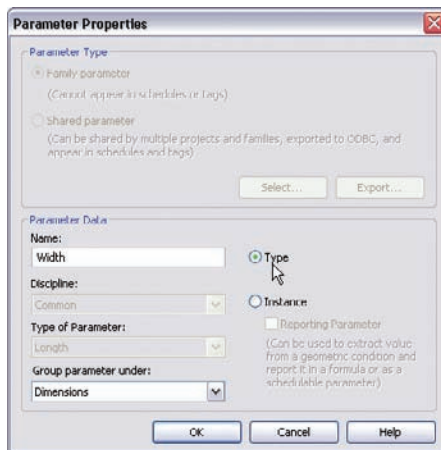

FIGURE 17.7 Configuring the parameter
- In the Parameter Properties dialog under Parameter Data (as shown in Figure 17.7), type Width for the Name.
- Click the Type toggle (see Figure 17.7).